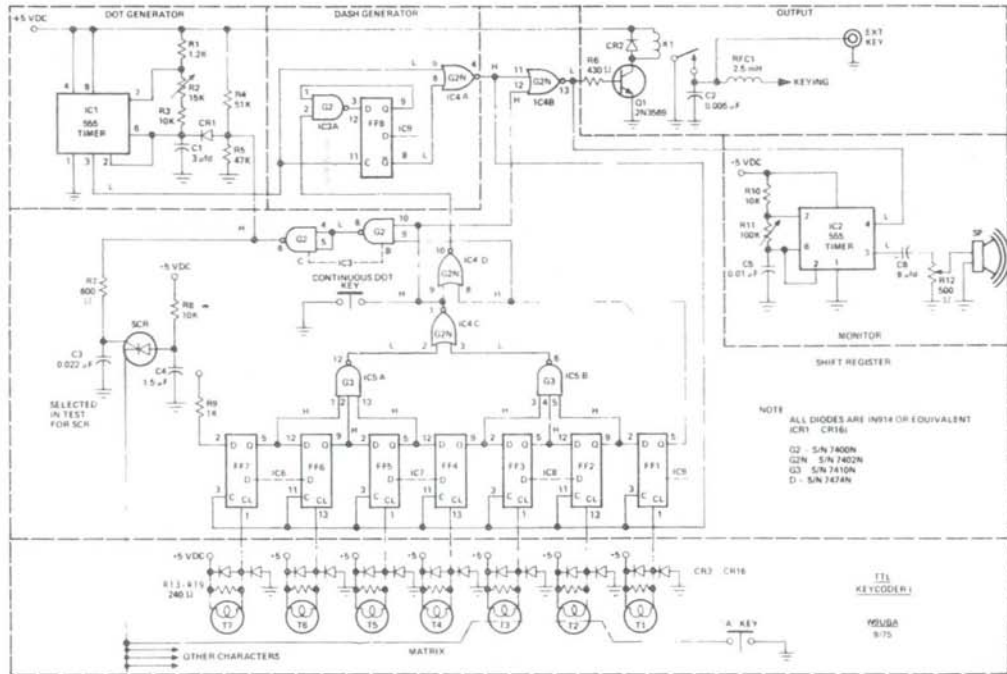

Fig. 6-3. Keycoder 1 schematic.
a very good discussion of the circuit theory and of the toroidal core transformers used, so this information will not be repeated here. Our theory discussion will take you on a tour of the TTL-version schematic diagram (Fig. 6-3). For convenience of discussion, the schematic is separated by dashed lines into the following six areas representing functional blocks: (1) dot generator, (2) dash generator, (3) shift register, (4) encoding matrix, (5) monitor, and (6) output stage. The discussion that follows will be so divided also, with some necessary overlapping. In Fig. 6-3 the logic state H ("1") or L ("0") is shown for the output of each IC. These states are for static conditions, when no character is being generated.
As shown in Fig. 6-3, the shift register portion of the schematic consists of "D" type flip flops FF1 through FF7, two sections of a triple 3-input NAND gate (the third section isn't used), the remaining two NOR gate sections of IC4, and two gates of a quadruple 2-input NAND gate IC (the fourth section isn't used). In this mechanization, the 3-input NAND gates serve an OR function, one section of IC4 is used as an AND gate, and pins 4, 5, and 6 of IC3 are really only an inverter, so things aren't entirely as they seem.
Returning to Fig. 6-3 observe that the static state for the flip flops is for their Q outputs to be high. This results in the other gates in the register being forced to the logic states shown, ending up with pin 6 of IC3 being high and the dot generator disabled. Through a process to be described later, one or more of the flip flops is set each time a key is struck. The resulting lows on the flip flops cause the outputs of one or both sections of IC5 to change state and, in turn, pin 1 of IC4 and pins 8 and 6 of IC3, thus starting the dot generator. If pin 5 of IC9 goes low and the Q output of any other flip flop also goes low (rule 2), pin 10 of IC4 will go high, and a dash will be generated; otherwise a dot will be formed. The dot or dash causes pin 4 of IC4 to go from a high to a low. This pin is connected to the clock inputs (pins 3 and 11) of the shift register flip-flops, but a high-to-low transition does not affect a "D" type flip flop. However, when the dot or dash is completed, pin 4 of IC4 again goes high, and the low-to-high transition does clock all of the flip flops causing a right shift. That is, the Q output of each flip flop assumes the logic state that its left-hand neighbor had before the clock pulse. The resulting new set of Q outputs now initiates another dot or dash which, in turn, produces another clock pulse to shift the register to the right again, and so on until only the output of FF1 is low. This is the condition (according to rule 3) to generate a silent dash. What actually happens here is that FF1 turns on the dot generator, but since the other flip flop outputs are all high, pin 1 of IC4 is high and provides the output inhibit signal to pin 12 of IC4. Note that the silent dash creates another clock pulse that shifts the "1" output of FF2 into FF1, thus ending the character cycle and